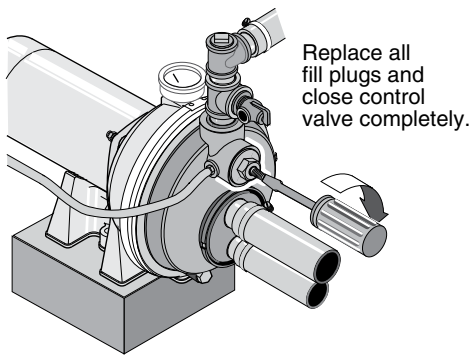

Figure 13: Prime Pump
2. Replace all fill plugs and close the control valve completely (Figure 13).